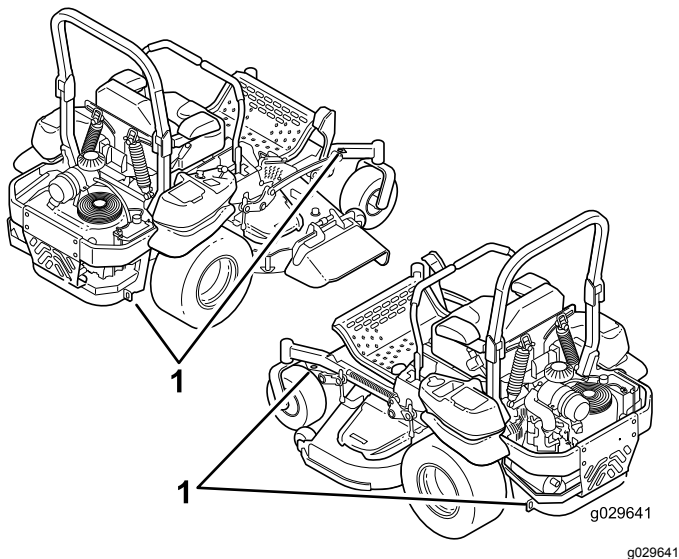

Figure 41
5. Use the tie-down loops on the machine to securely fasten it to the trailer or truck with straps, chains, cable, or ropes (Figure 41).